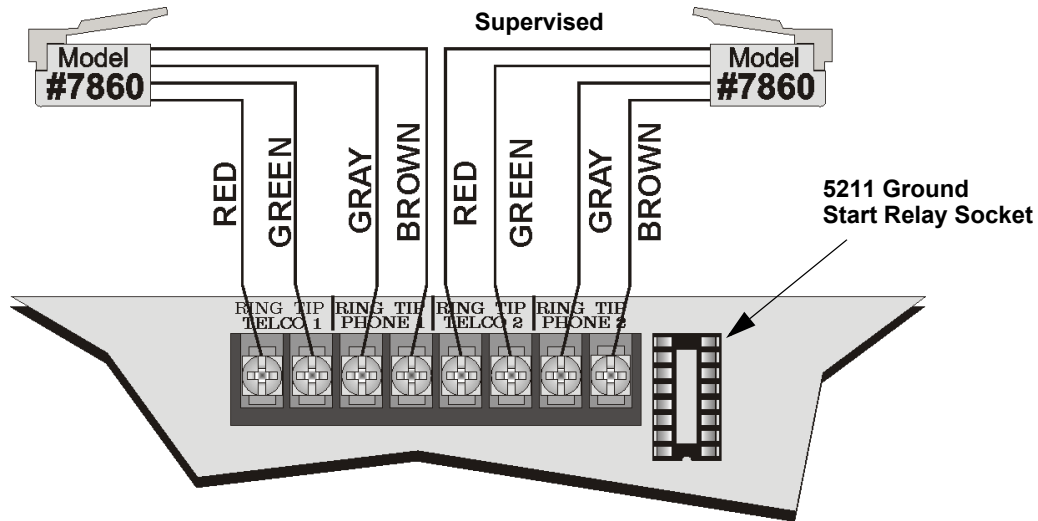

Figure 4-26 Connection of Telephone Lines
Connect the telephone lines as shown in Figure 4-26. The Model 7860 phone cord is available from Silent Knight for this purpose.
1. Install the relay as shown in Figure 4-26.